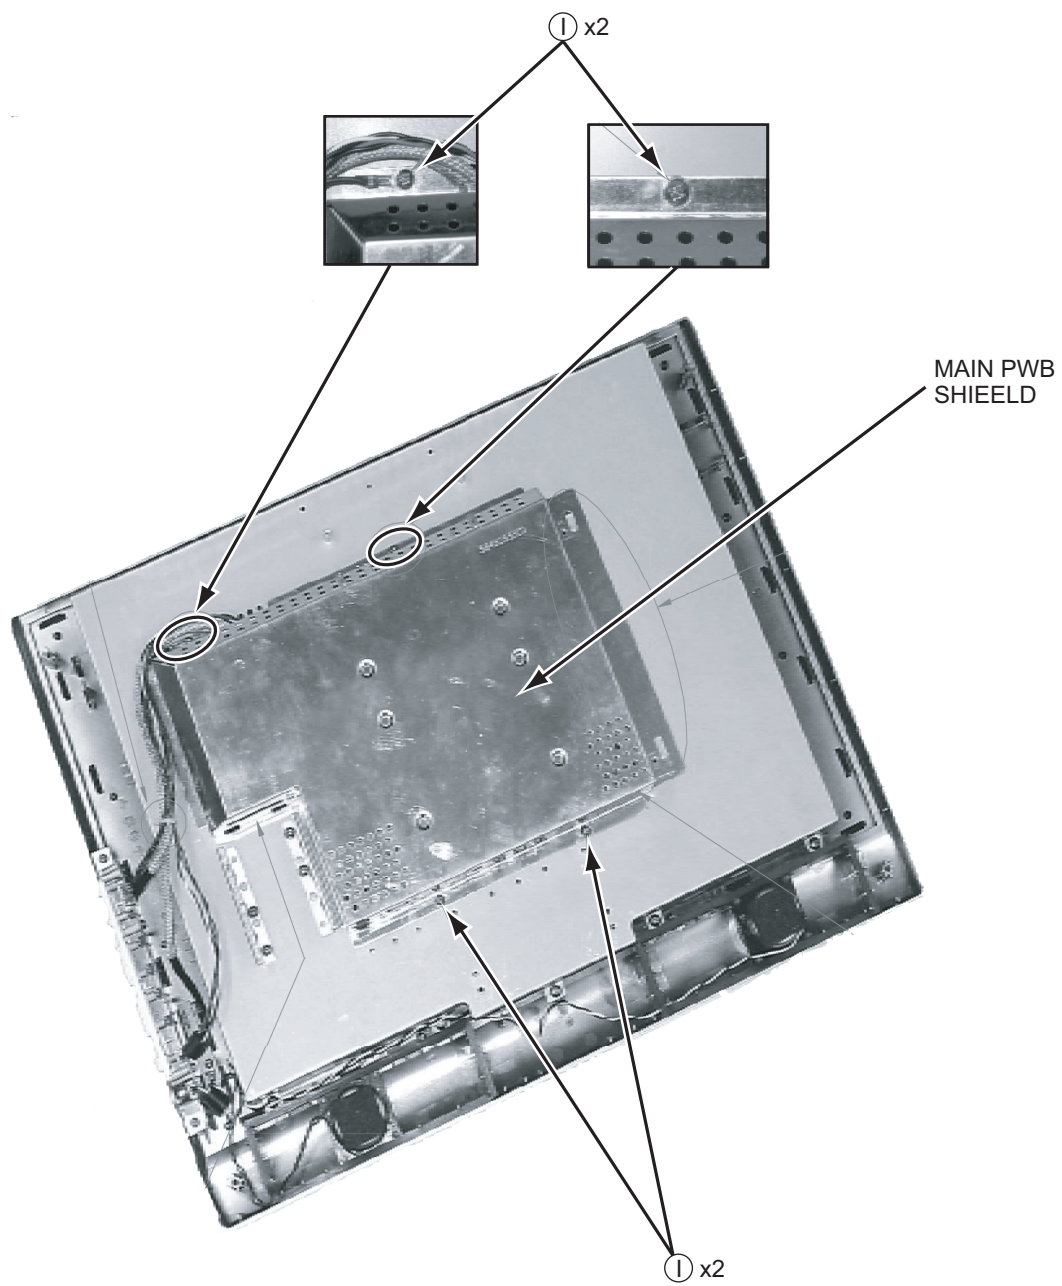

Fig.5
- (4) Remove the 4 screws **[I]**. (Fig.5)
- (5) Remove the MAIN PWB SHIELD by sliding to downside. (Fig.5)